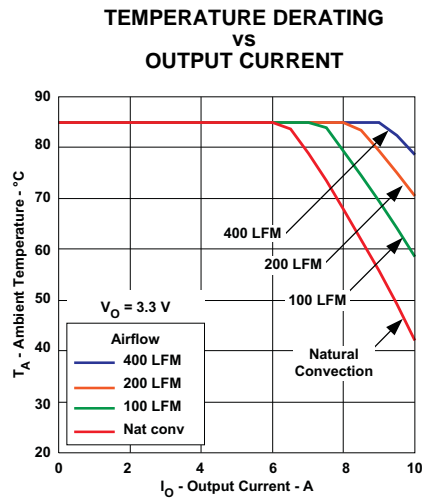
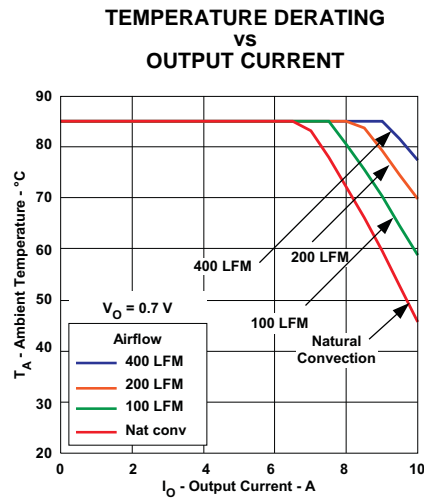

Figure 10.
Figure 11.
- (2) The temperature derating curves represent the conditions at which internal components are at or below the manufacturer's maximum operating temperatures. Derating limits apply to modules soldered directly to a 100 mm x 100 mm double-sided PCB with 1 oz. copper. Applies to Figure 10, Figure 11.